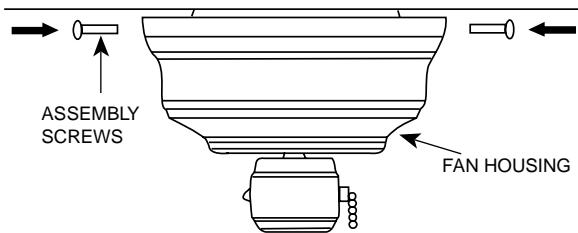

FIGURE 10
2. Place the fan housing over the motor assembly and fasten the housing to the ceiling plate using the four screws provided (two into each side). See Figure 10.